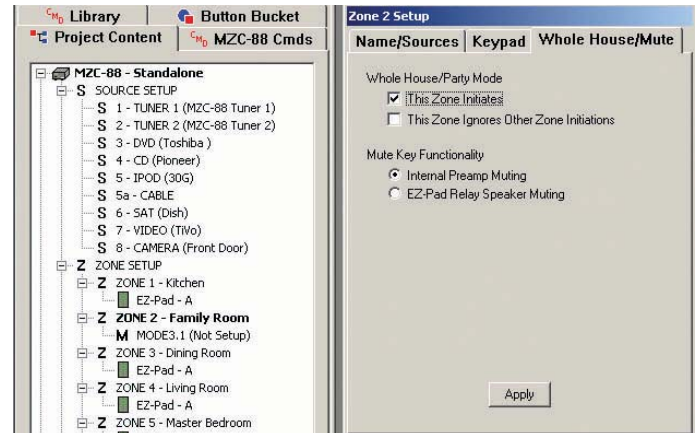

Figure 21
- Left click the **Whole House/Mute Tab** to confirm Whole House and Mute Key Functionality. These functions should have already been configured in the existing project. Under **Whole House/Party Mode**, "**This Zone Initiates**" should be checked to enable Party Mode from a press and hold of the **Click Button** when selecting a source on the MODE 3.1. "**This Zone Ignores...**" should be checked to lock out Party Mode commands from other zones. Under **Mute Key Functionality**, "**Internal Pre-amp Muting**" should be checked to use the MZC zone preamp muting function. "**EZ-Pad Relay Speaker Muting**" should be checked when using EPR-1.0 EZ-Pad Relay Muting Module for muting individual rooms in sub-zone expansion applications (multiple rooms in a single zone). When Zone Whole House/Mute functions are set, left click **Apply**. (Refer to **Figure 21**)